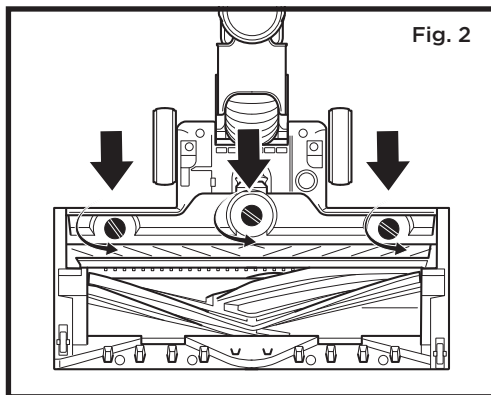

Fig. 2
3. Turn the nozzle over and use a screwdriver to loosen the screws to the unlocked position (Fig. 2).